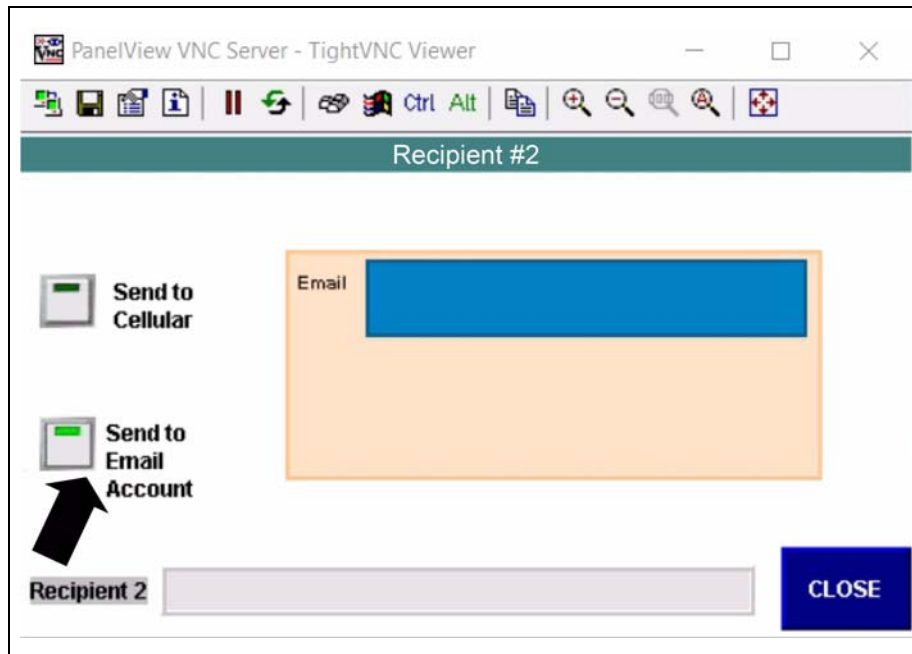

Figure 6F
5. To send the message to an email recipient, press the radio button next to “Send to Email Account”. (See Figure 6F.)